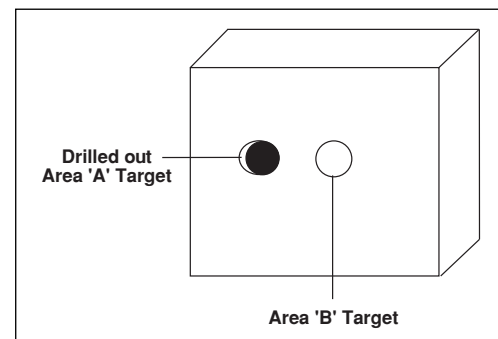

Figure C-2. Determining Emissivity with a Drilled Hole
3. Set the emissivity to 0.97 and measure and record the temperature of the hole in the sample material - Area A in Figure C-2. Make sure that the hole fills the FOV of the thermometer.
4. Aim the thermometer at another spot on the target as close as possible to Area A (Area B in Figure C-2).